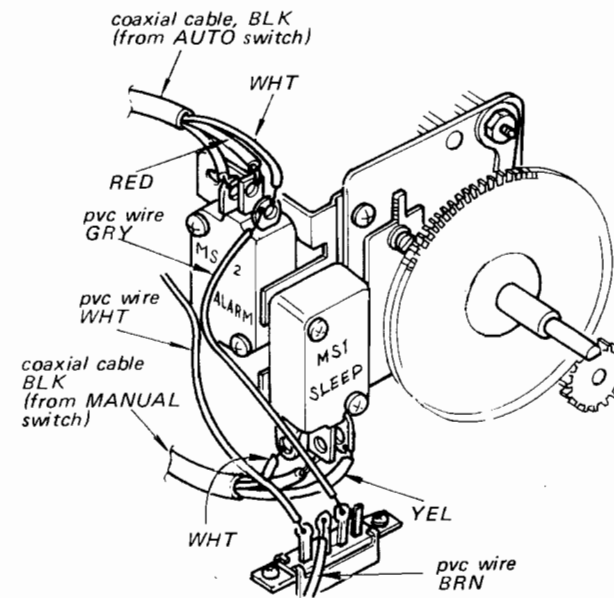

Fig. 2-9
6. Unsolder the three pvc wires and two coaxial cables shown in Fig. 2-9.